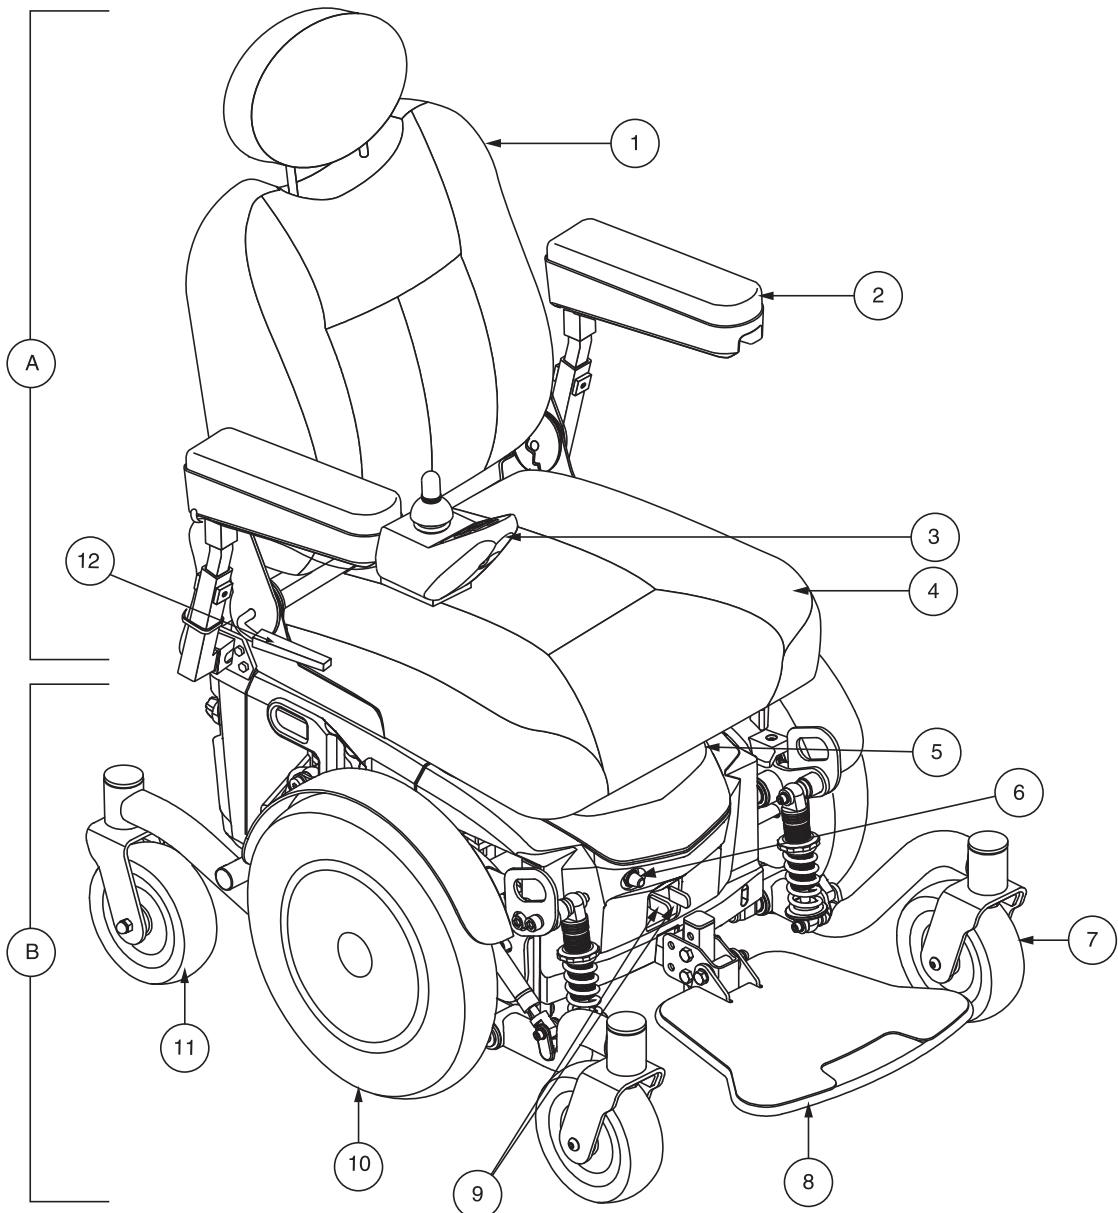

Figure 1. The Jazzy EVO 614 Series Power Chair
Your power chair has two main assemblies: the seat assembly (A) and the power base assembly (B). See **figure 1**. Typically, the seat assembly includes the armrests, seatback, and seat base. The power base assembly includes two motor/brake assemblies, two drive wheels, four caster wheels, two batteries, and wiring harnesses. See **figures 1, 2, and 3**.